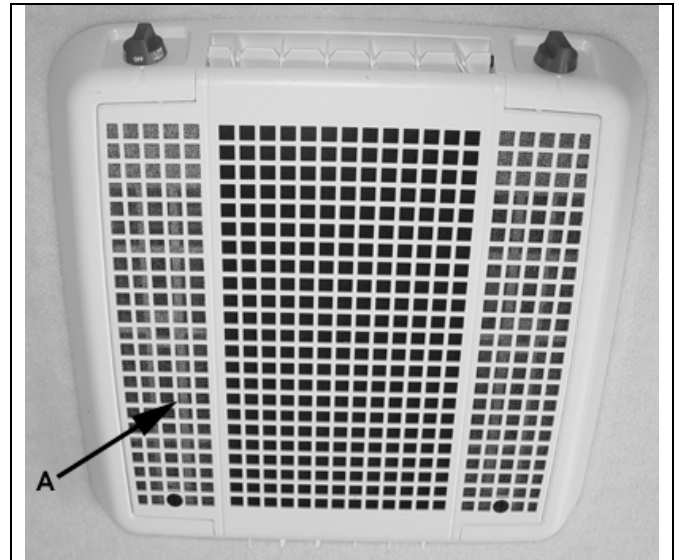

Figure 8-4 – Return Air Filter
Remove cover (A) and return air filter. Clean or replace return air filter at least every three months. Install cover (A). See figure 8-4.